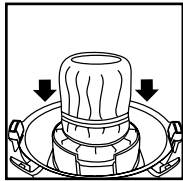

FIGURE 19
31. Slide mounting ring down over filter until ring is positioned against the ribs of the lid cage. **FIGURE 19.** The reusable dry filter should always be in position over the foam sleeve for dry pick up.